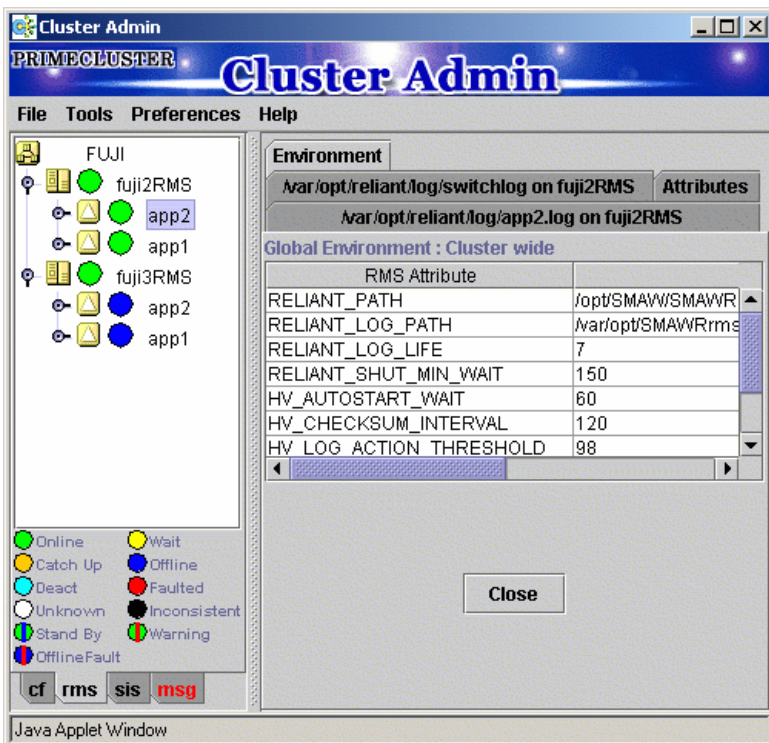

Figure 93: Clusterwide environment variables
- ▶ Right-click on a cluster in the RMS tree window and select *View Environment* (see Figure 93).